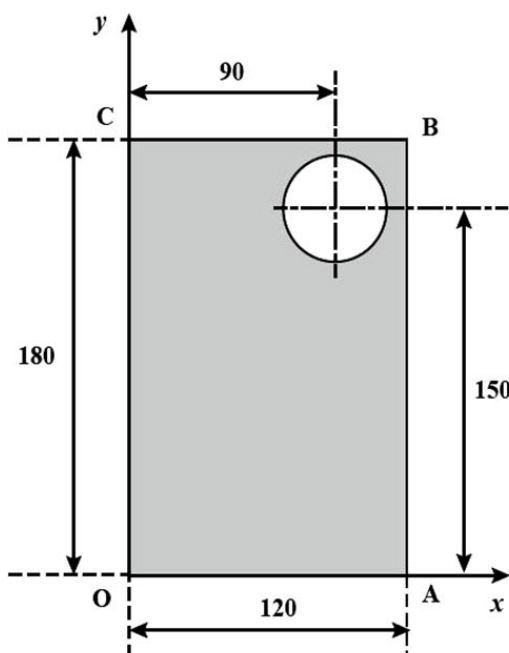

Fig. 5
- 4 (a) Fig. 5 shows a plate of uniform density aligned within a Cartesian coordinate system,  $(x, y)$ , with the origin at corner O. The plate has the shape of a rectangle, 120 mm wide and 180 mm long and contains a circular hole. The hole has a diameter of 40 mm with its centre at coordinates (90, 150).